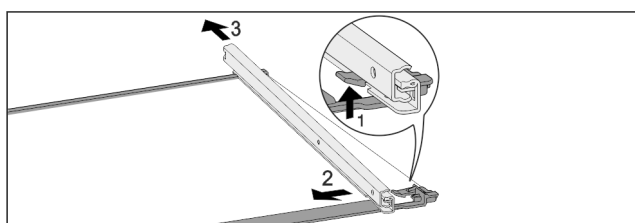

Fig. 124 Glass shelf with rails
- Push up front click-in hooks. Fig. 124 (1)
- Move the pull-out rails to the side Fig. 124 (2) and to the rear Fig. 124 (3).